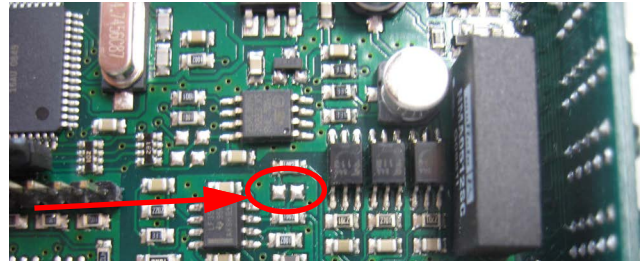

Figure 2-11. Soldered Jumper
- Locate the soldered jumper (SW4), on the circuit board. See Figure 2-11.